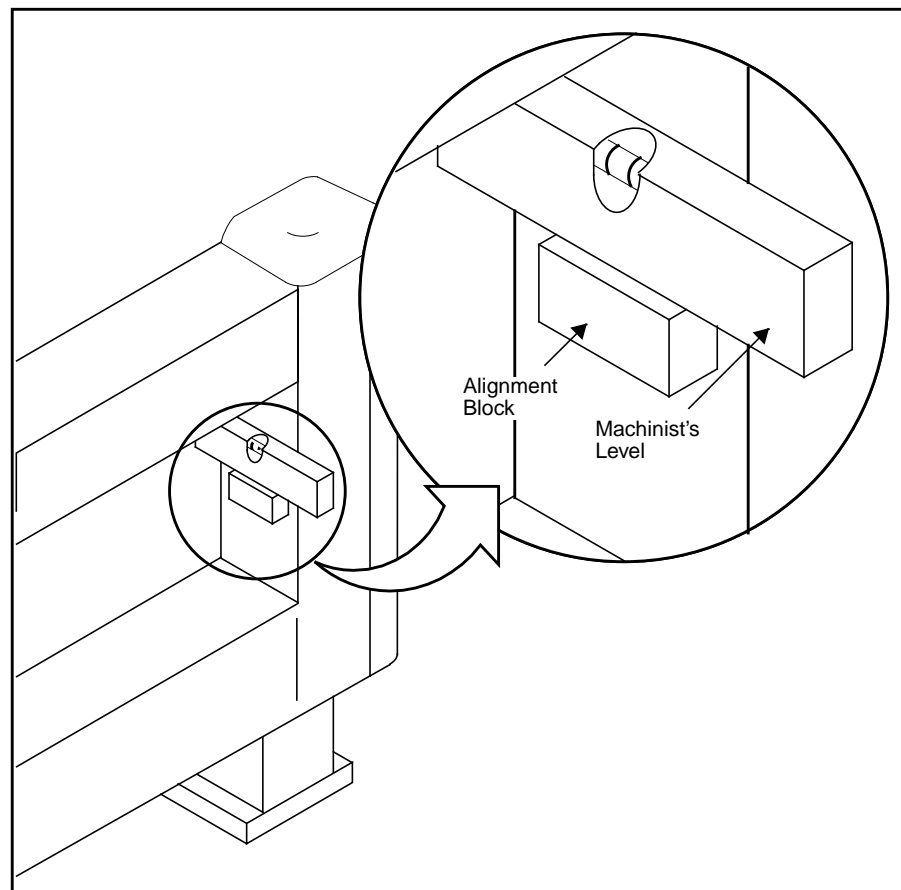

Figure 3-9 Verifying Platform Alignment
1. Place a machinist's level on the leveling blocks located on the inner side of each end column. See Figure 3-9.